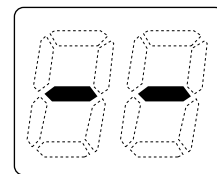

Fig 1.
**STEP 2:** Check that the display on all Four controllers is lit and displaying a temperature when switched on. If any ONE of the controllers displays two dashes (see fig 1.) in the display repeat STEP 1.